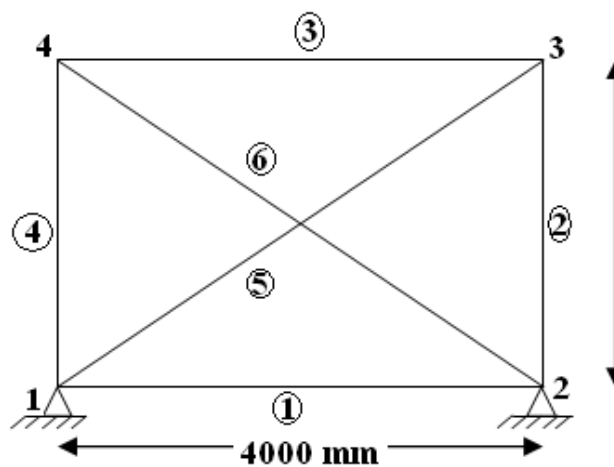

Figure 8
Q. 8 A Fig.8. shows an indeterminate pin connected plane stress with cross sectional area of diagonal members equal to 2000 mm^2 and all other members with cross sectional area of 1000 mm^2 . If Young's modulus $E=200\text{kN/mm}^2$ 12